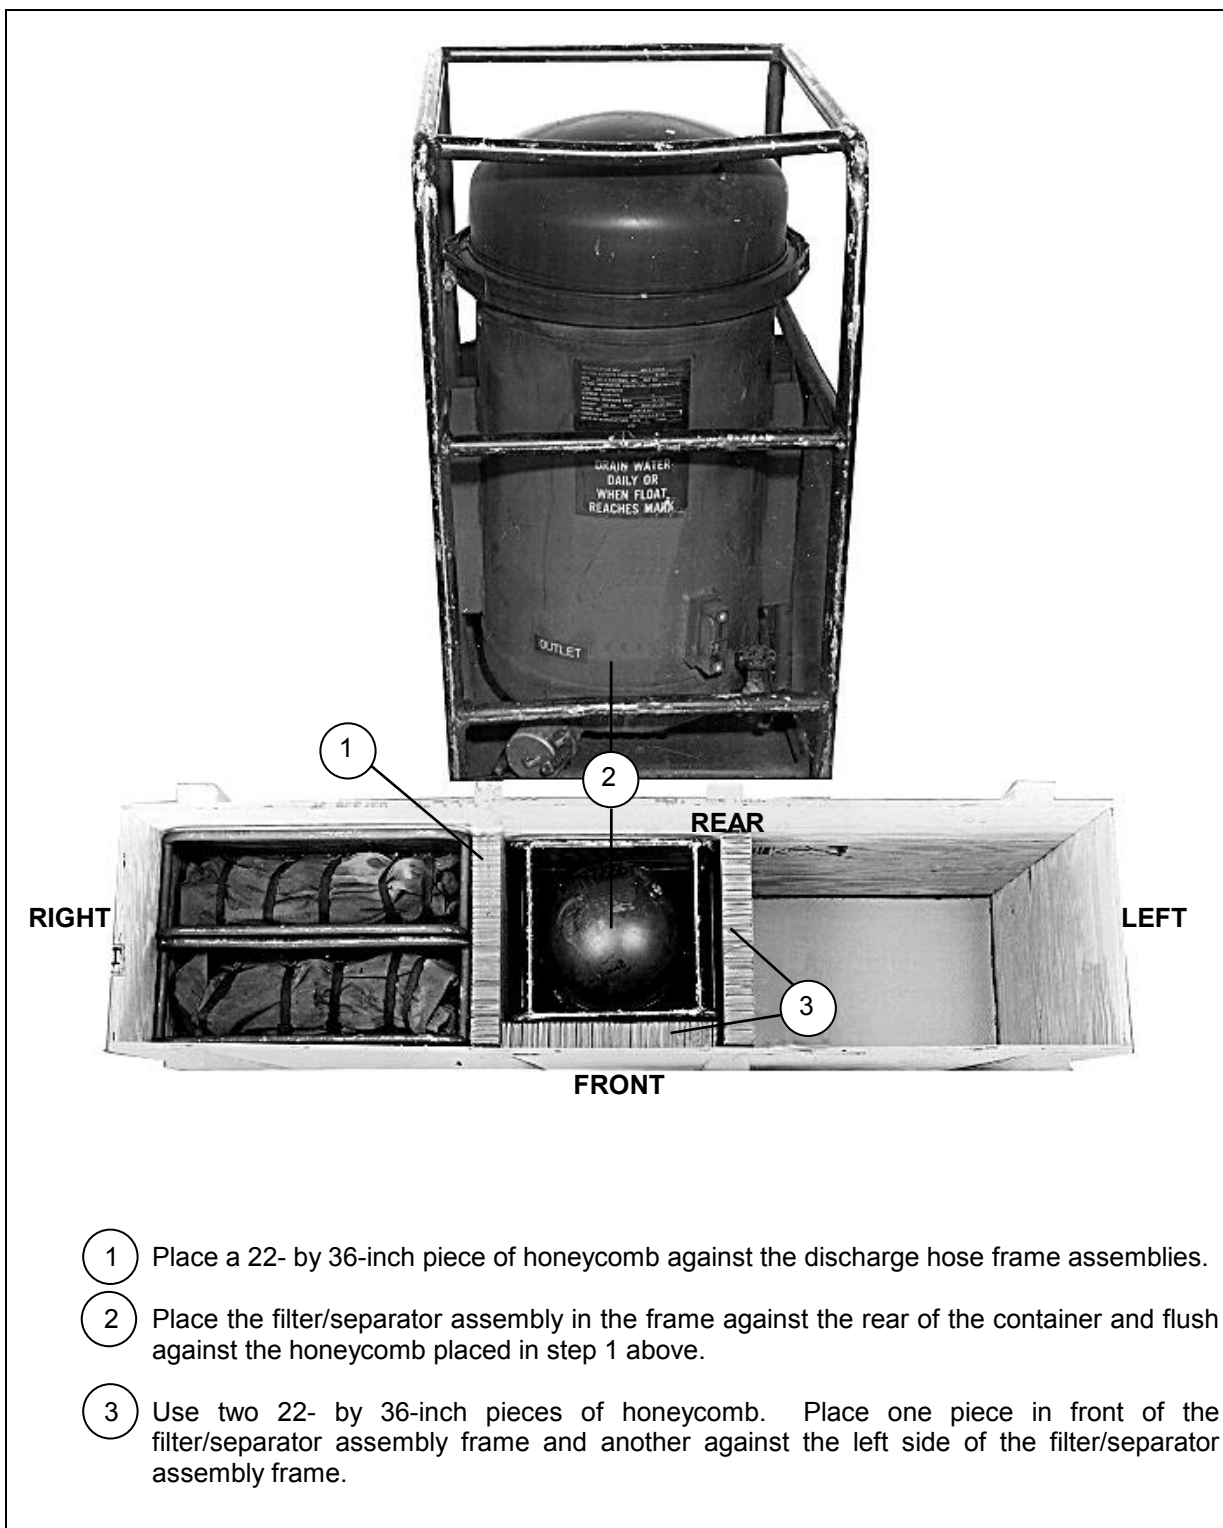

Figure 11-8. Filter/Separator Assembly Prepared and Stowed
- **Preparing Filter/Separator Assembly.** Prepare the filter/separator assembly and stow it in the container as shown in Figure 11-8.